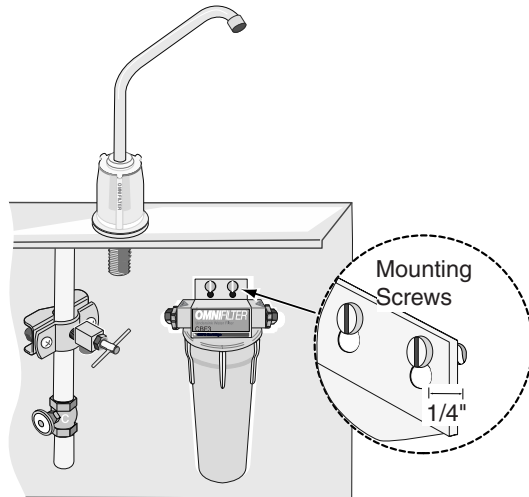

Figure 8
12. Install the filter assembly onto the mounting screws installed in step 2 and tighten the mounting screws. See Figure 8.